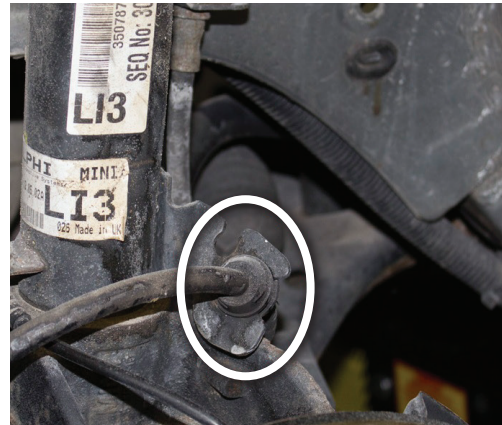

fig. 3
2. Unbolt the sensor linkage bracket from the lower control arm and the sensor bracket from the chassis. Remove the assembly and separate the sensor and linkage from the brackets (Fig. 3).